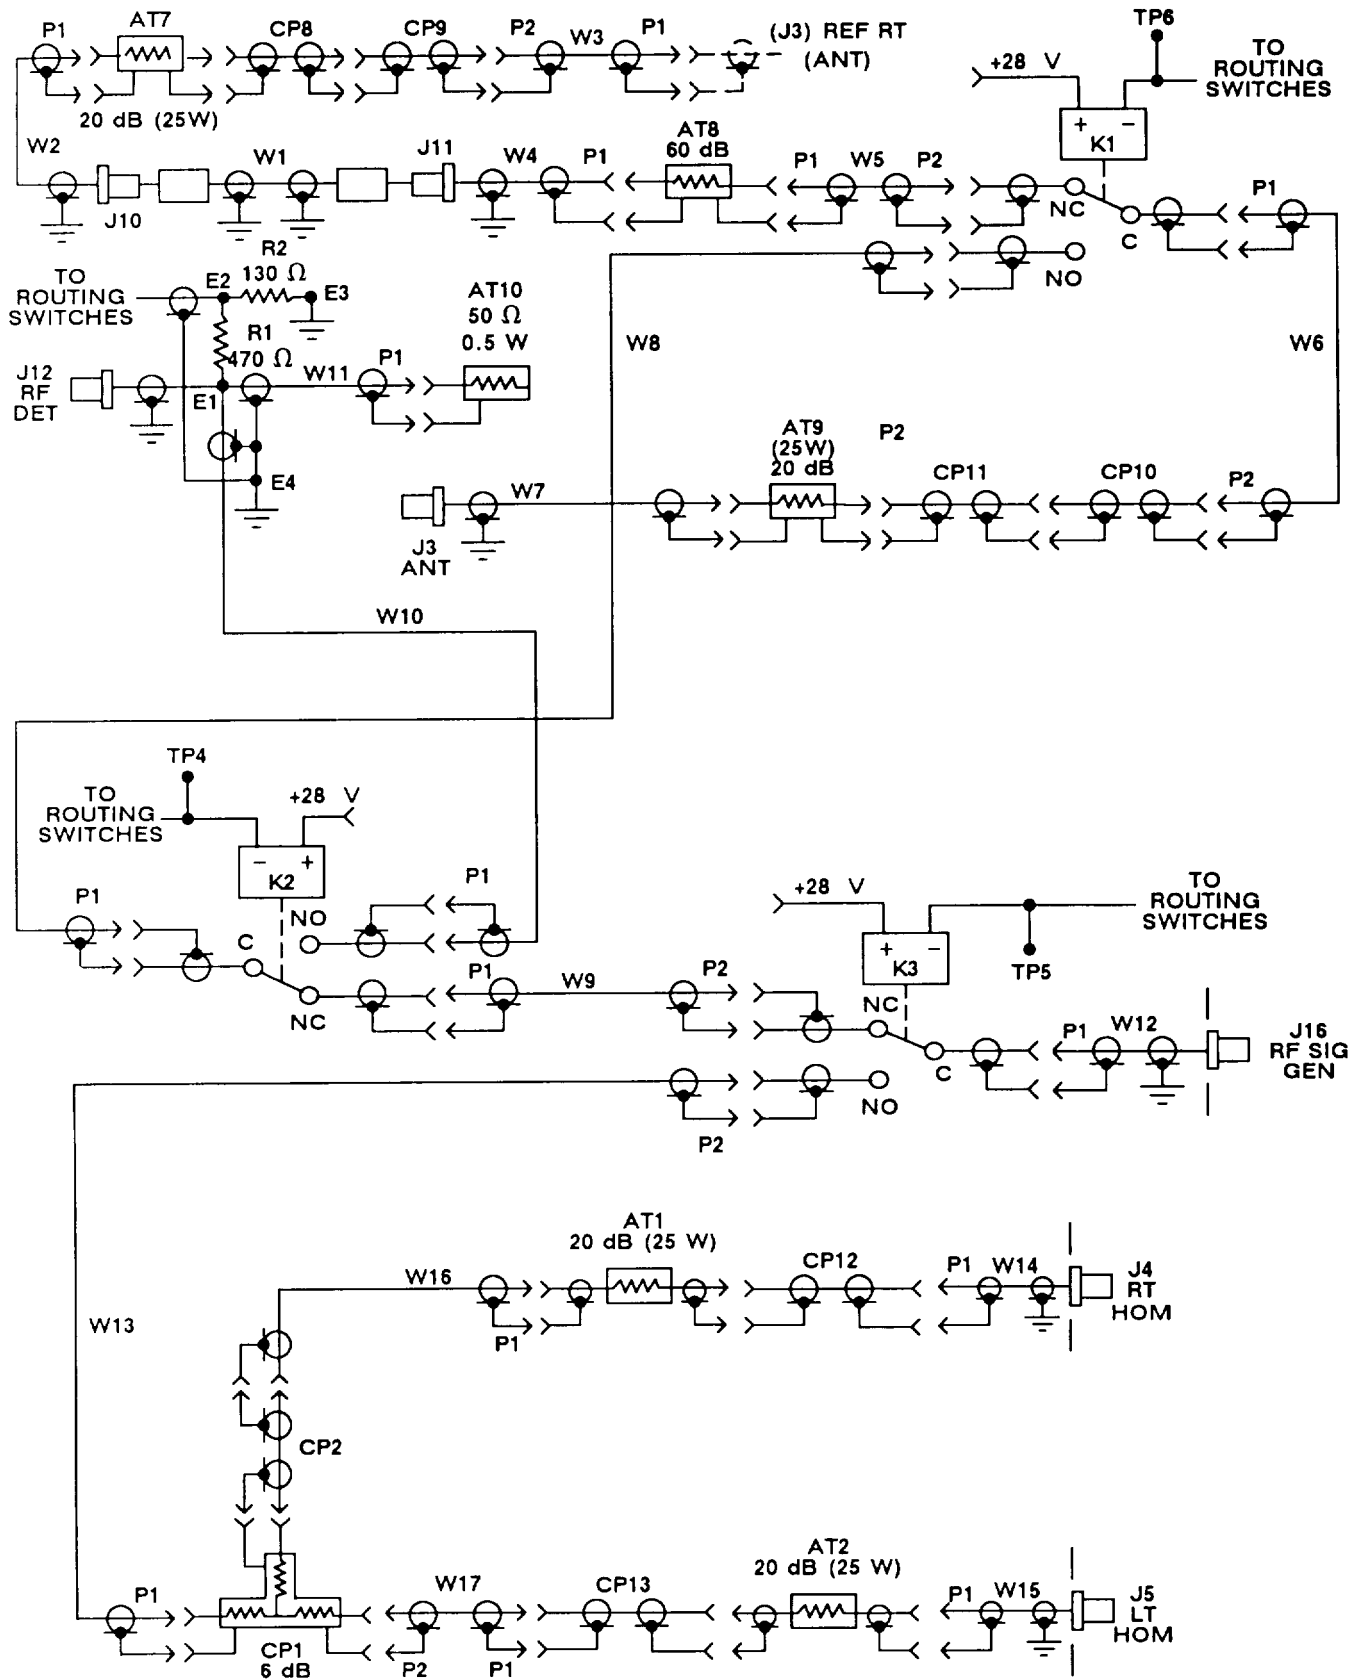

Figure 6-4. Test Adapter Rf Section
c. *Rf Section.* The rf section of the test adapter, as shown in the partial schematic diagram of figure 6-4, is a series of rf cables, dividers, relays and attenuators. The path of signals is controlled by the relays K1 through K3. The relays are shown in their inactive positions. When ground is applied to the negative control lead, the current flow from +28V to GND activates the relay coil and the signal path switches to the alternate route. The negative control lead for each relay is grounded by the routing switches. The rf section provides: